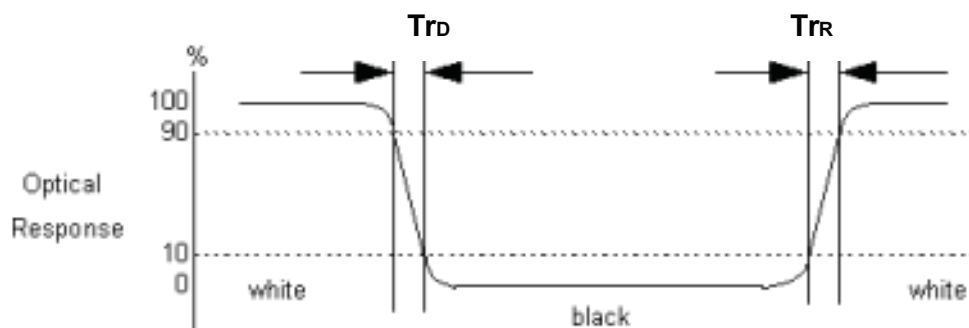

Fig.4-3 Response time
4. Response time is the time required for the display to transition from white(L255) to black(L0) (Decay Time, $Tr_D=Tr_f$) and from black(L0) to white(L255) (Rise Time, $Tr_R=Tr_r$). The response time interval is between the 10% and 90% of 1st frame amplitudes. For additional information see FIG 4-3.